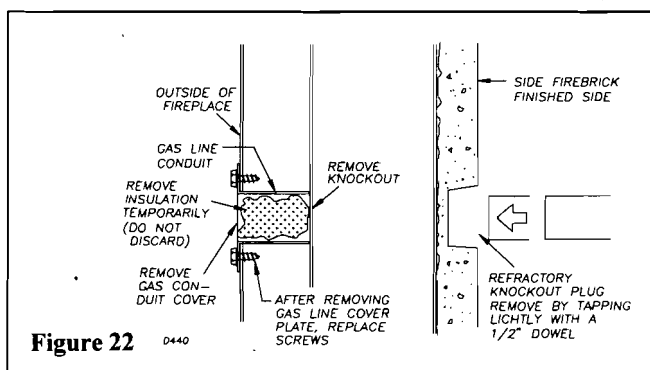

Figure 22 0440
STEP 1: To install, remove the knockout indentation on the refractory, (or firebrick), wall located approximately 2 inches above the refractory hearth floor. The knockout indentation must be firmly tapped with any solid object until it is released. Remove fragmented portions of refractory (see figure 22).